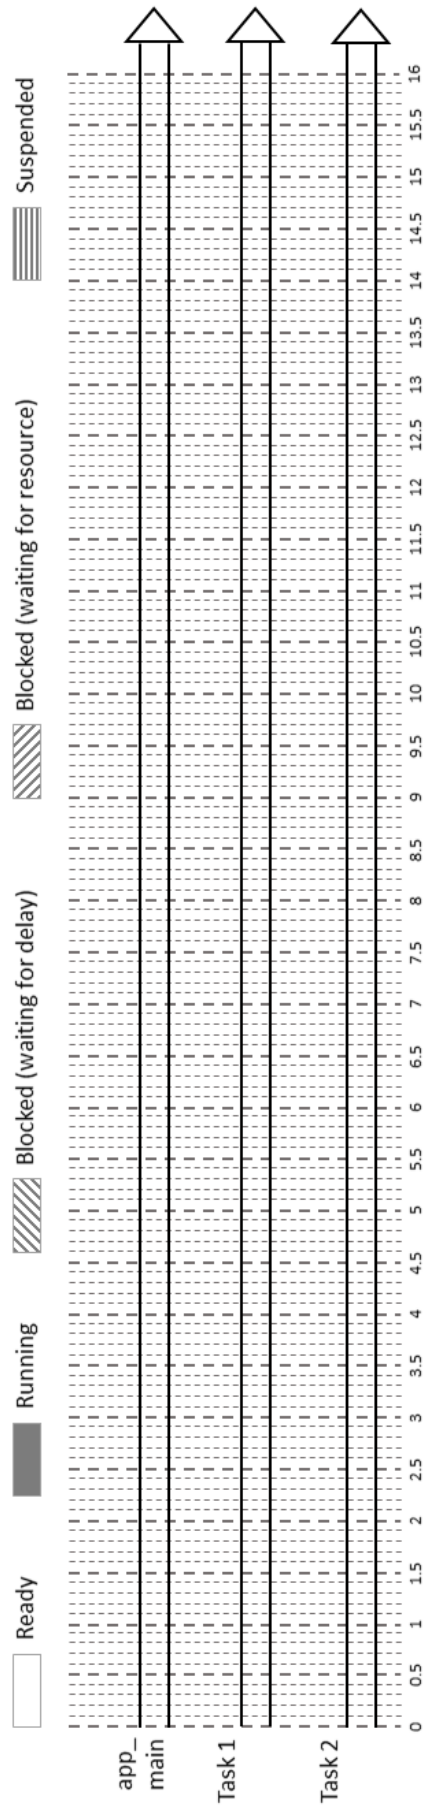

FIGURE 1.2 – Scheduling of 3 tasks.
14. For this scenario, trace in the figure 1.2 the behavior of the *app\_main()*, *Task 1* and *Task 2* tasks until 160 ticks.